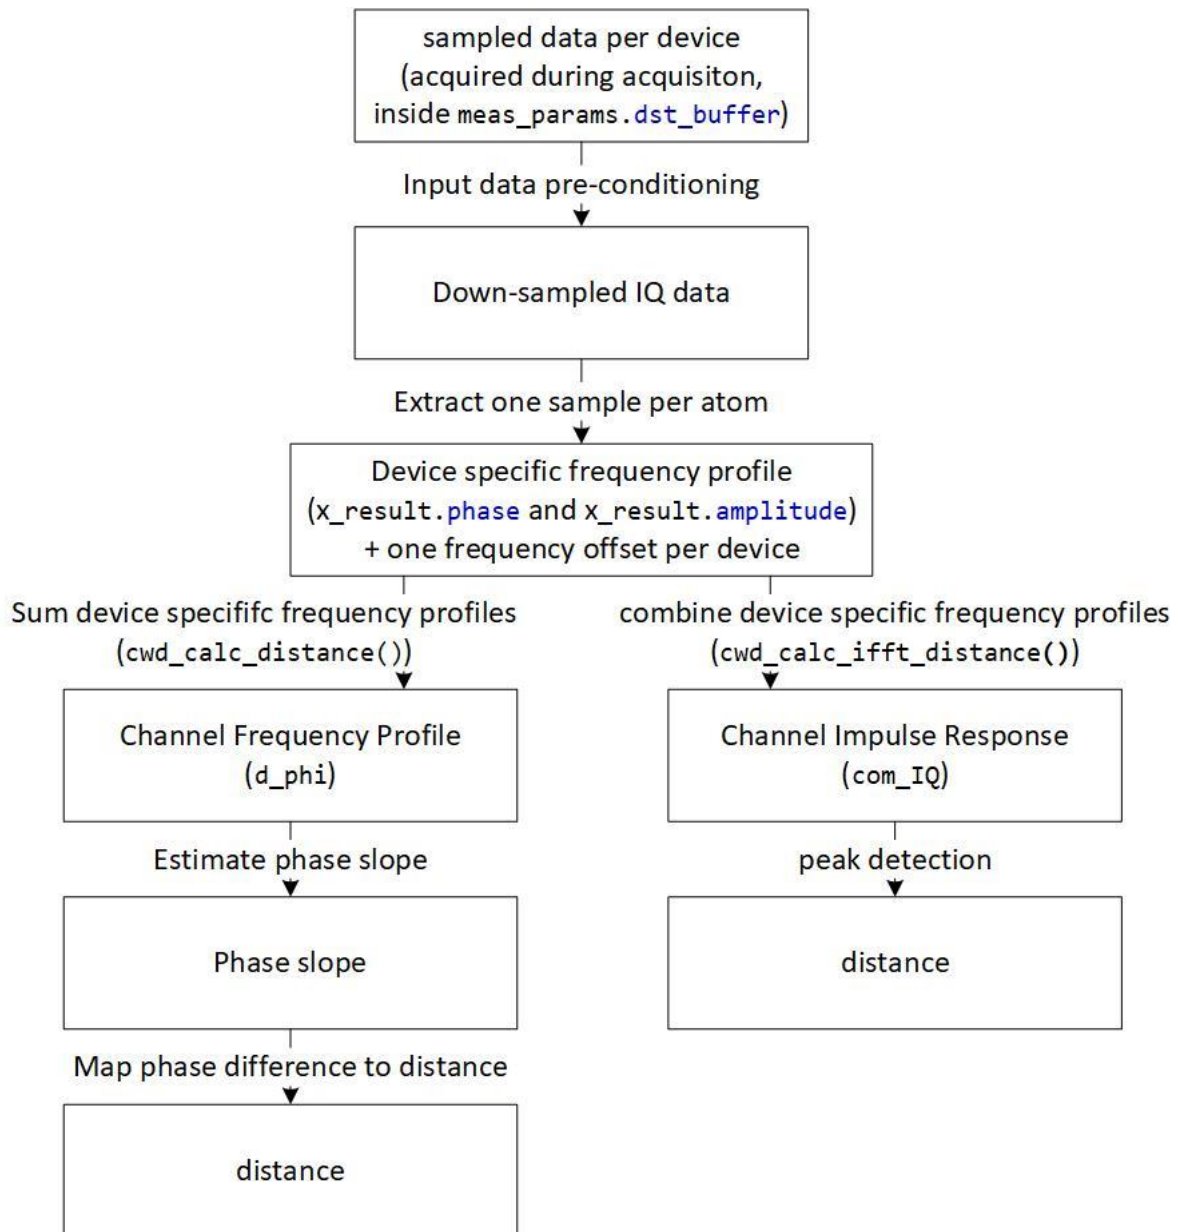

Figure 17: Distance Calculations
Once acquisition finishes, distance results are extracted from the sampled measurement data. All operations specific to distance estimation are implemented inside directory “calc”. Figure 17 shows an overview of the related process.
- IFFT-based distance calculation (right-hand side in Figure 17, and section 5.4.1)
- Phase-based distance calculation (left-hand side in Figure 17, and section 5.4.2)